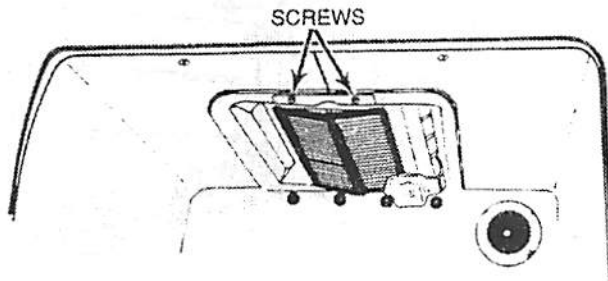

FIGURE 17
2. Remove the two screws (fig. 17) fastening the broil burner assembly to the oven. Carefully pull the burner towards you, then downward to access the burner orifice spud in the rear wall. Extra care is needed to avoid breaking the ignitor coil. Place burner, screen-side up, in a safe area.